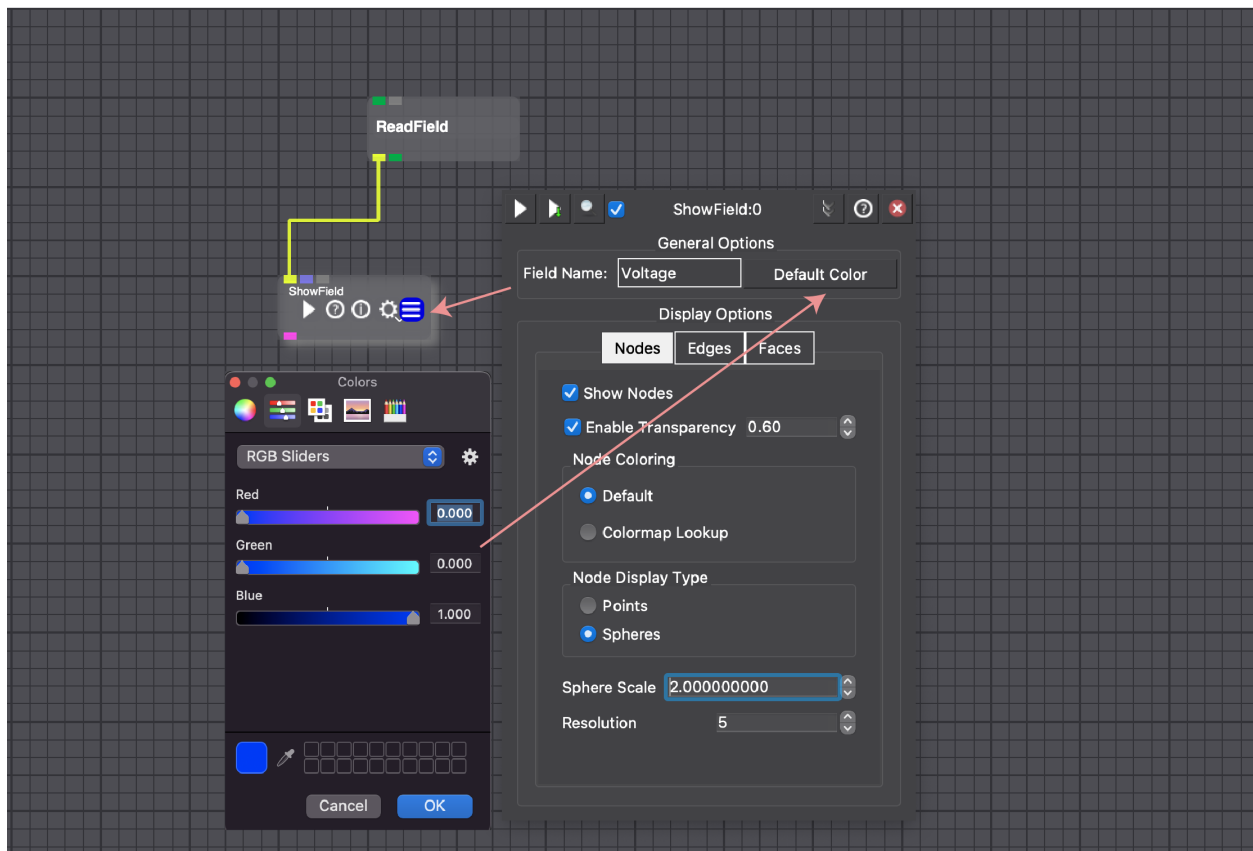

Fig. 3.9: ShowField GUI
4. Select the OK button in the Color Chooser GUI. Notice that the Default Color swatch in the ShowField GUI has changed to blue. SCIRun and the ShowField GUI should now look like Fig. 3.9.